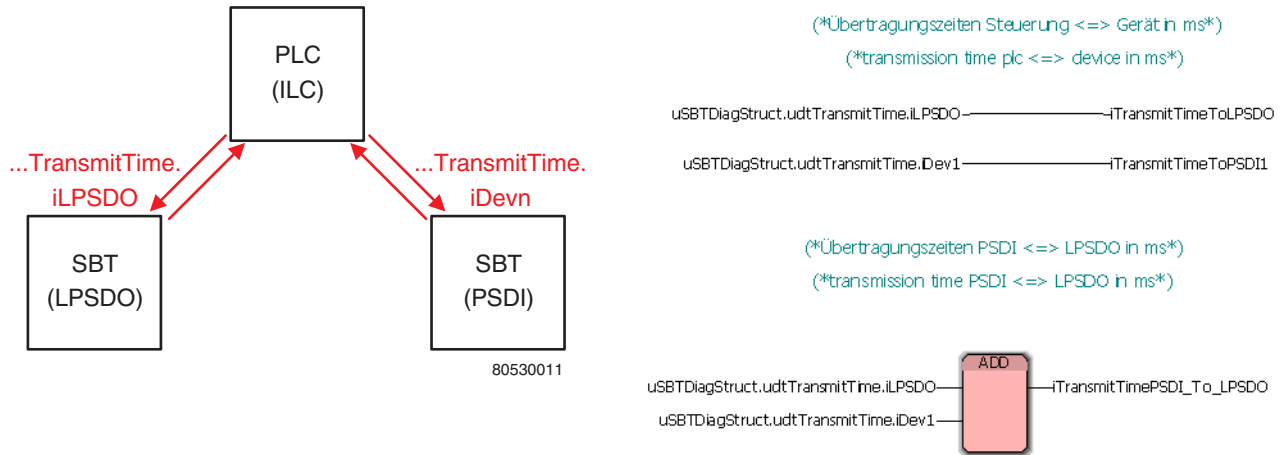

Figure A-9 Time to exchange process data between the controller and the devices of the SafetyBridge islands
- ...TransmitTime.iLPSDO and ...TransmitTime.iDevn: See Figure A-9.